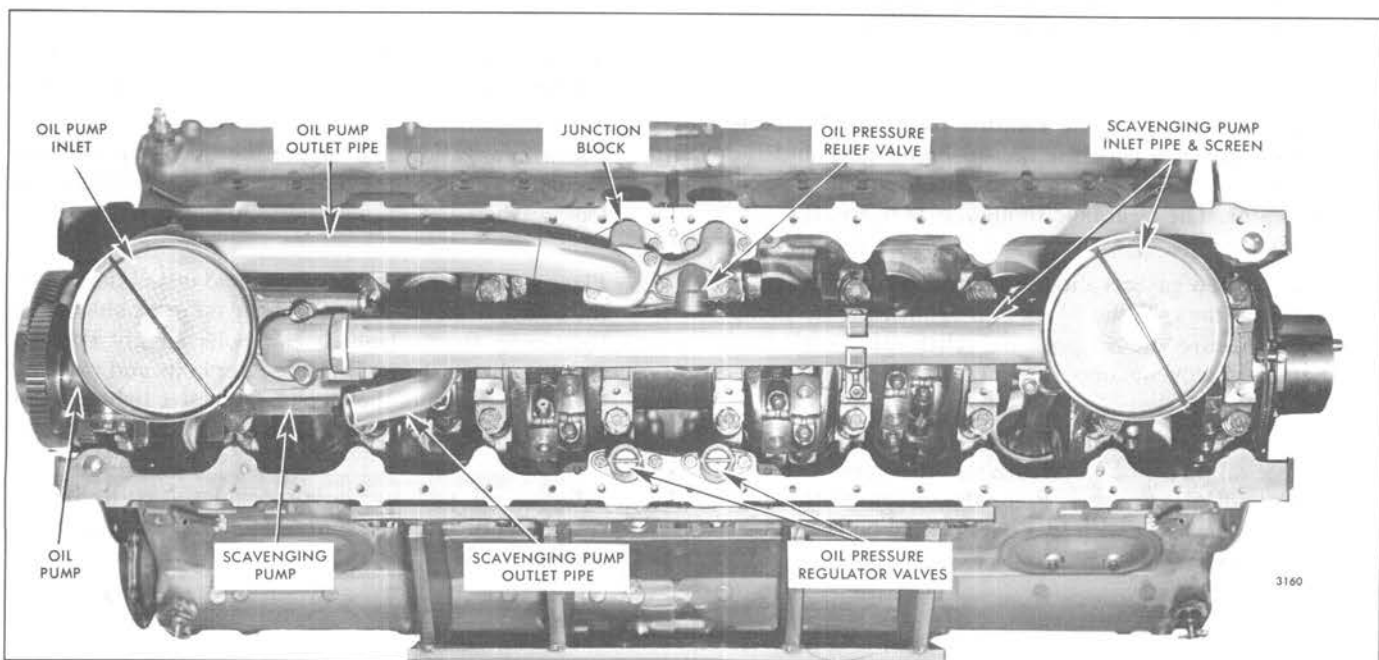

Fig. 10 – Typical Lubricating Oil Pump Rear Mounted (12V-92 and 16V-92 Engines)
The gear-type scavenging lubricating oil pump is mounted on number seven and eight main bearing caps (12V-92 engines) and number nine and ten main bearing caps (16V-92 engines) and is gear driven from the rear end of the crankshaft (Fig. 10). On some engines, the oil pump is mounted at the front on the number one and two main bearing caps and is gear-driven by an oil pump drive gear bolted to the front of the crankshaft gear.
3. Remove the inlet and the outlet tube assemblies from the oil pump and the scavenging pump (Fig. 10).
1. Position the rear mounted oil pump on the number seven and eight main bearing caps (12V-92 engines) and number nine and ten main bearing caps (16V-92 engines) so that the oil pump drive gear teeth mesh with the oil pump driven gear teeth. Secure the oil pump to the bearing caps with four nuts and lock washers (Fig. 10).
3. Install the junction block if it was removed (Fig. 10). When installing the junction block, use new junction block-to-cylinder block gaskets to prevent oil leaks.